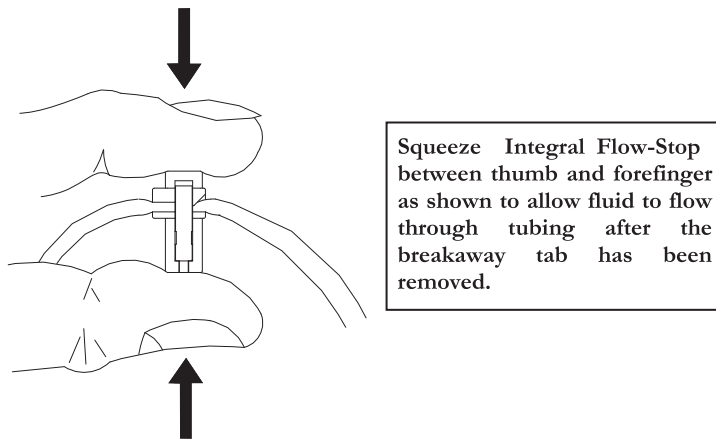

Figure 1.6 Intentionally Opening the Integral Flow-Stop
**Note:** An important feature of the Curlin Medical administration set is the unique design of the set-based Integral Flow-Stop. When the set is new, the Integral Flow-Stop has a breakaway tab that keeps the Integral Flow-Stop open and allows the tubing to be gravity primed. When you are ready to load the administration set into the pump, remove this tab, and the Integral Flow-Stop will automatically clamp the tubing. The Curlin Medical Integral Flow-Stop prevents inadvertent flow of medication to the patient whenever the door of the pump is opened because the Integral Flow-Stop automatically reacts to clamp the tubing. The Integral Flow-Stop can, however, be opened after the tab is broken away by intentionally squeezing down on the movable spring action section of the Integral Flow-Stop. See Figure 1.6 for an illustration of how to intentionally open the Integral Flow-Stop. For a complete listing of all available administration sets, see the Curlin Medical Product Catalog.